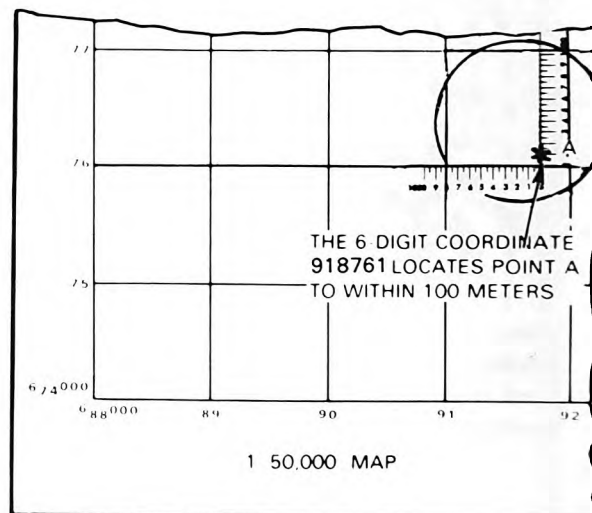

Figure 2.
6. Slide the coordinate scale to the right keeping the bottom of the scale on the bottom grid line until Point A is located under the vertical (righthand) scale. (See figure 2.)
2. Westerly Grid-Magnetic (G-M) Angle (figure 2):